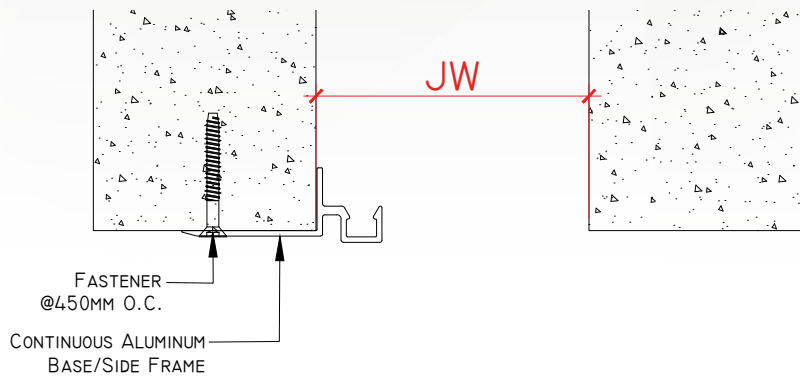

Figure 1.
8. Put the base member back into position on the concrete or masonry substrate, aligning the anchor holes in the base member with the anchor holes in the substrate, and attach the base member to the substrate using the M4x40 fasteners (Not supplied by GENOTEK). (See figure 1.)